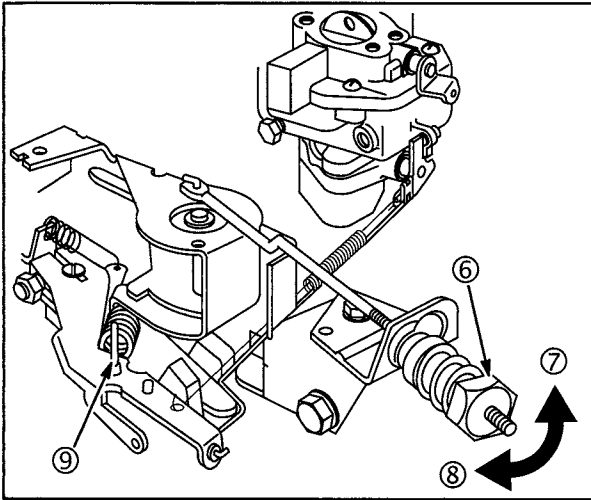

**Fig. 36**
3. Use Tool #19352 (1) to bend throttle restrictor tang (4) so that it just contacts governor lever (5), **Fig. 36**.